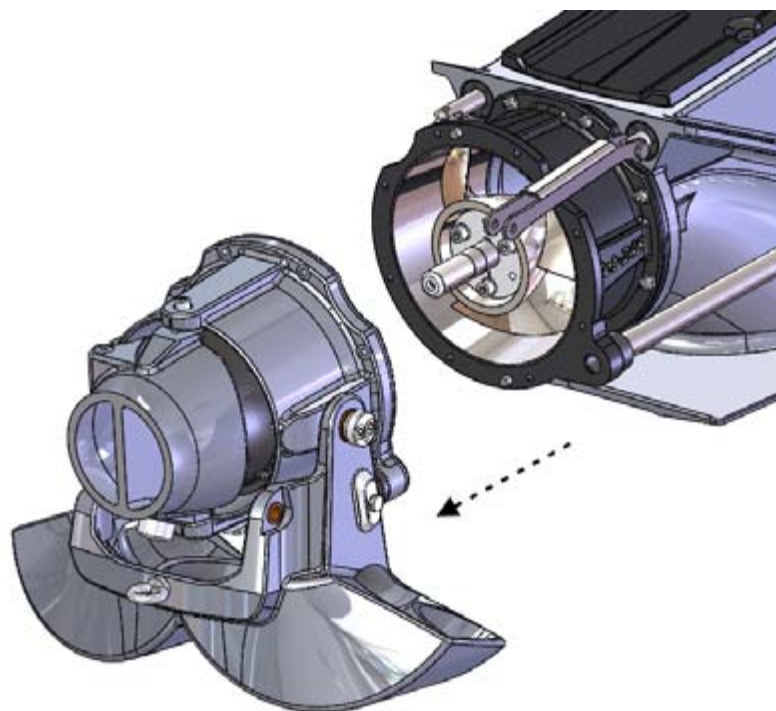

Figure 29. Removing the stator, reversing deflector and steering nozzle
3. Remove the stator, reversing deflector and steering nozzle as a complete unit (figure 29).